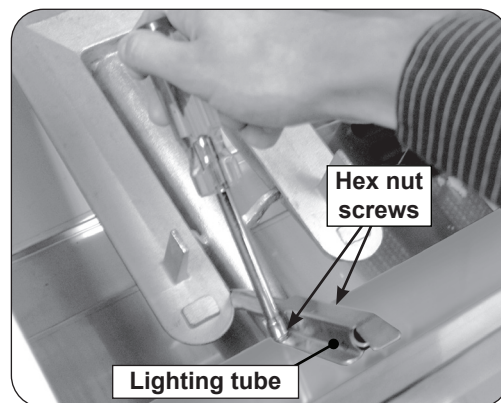

Fig. 1-1 Remove the lighting tube
4. Remove the lighting tube. Remove the two hex nut screws using the 1/4" hex nut driver, pull the tube directly away from the grill fire wall and off the mounting pin and igniter electrode (see Fig. 1-1).